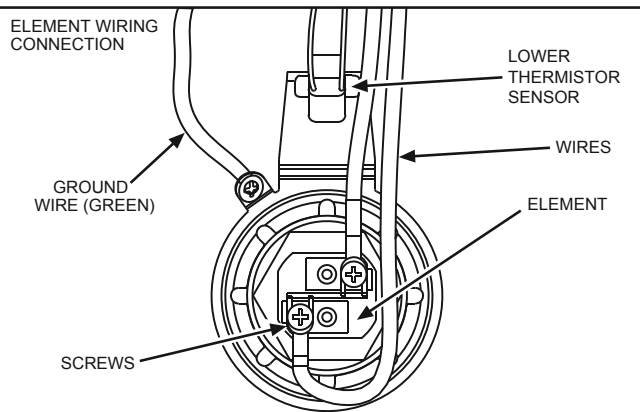

FIGURE 18
4. Disconnect the electric wires from the heating element. (See Figure 18). Remove the screw-in element by turning the element counterclockwise with an SAE 1-1/2 inch socket wrench or use an element wrench. Remove the existing gasket.